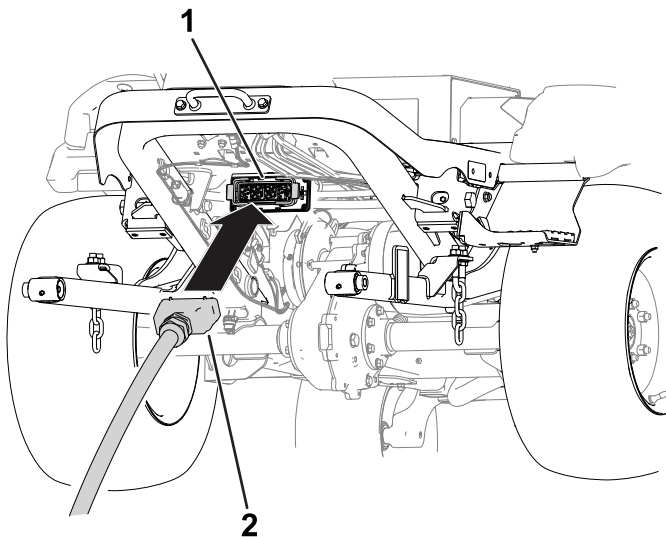

Figure 4
6. Insert the cutting-unit connector to the machine connector (Figure 4).